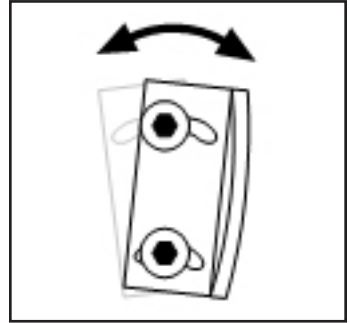

Fig. 10
2. Rotate pad to the desired angle and tighten screws. *Fig. 10*